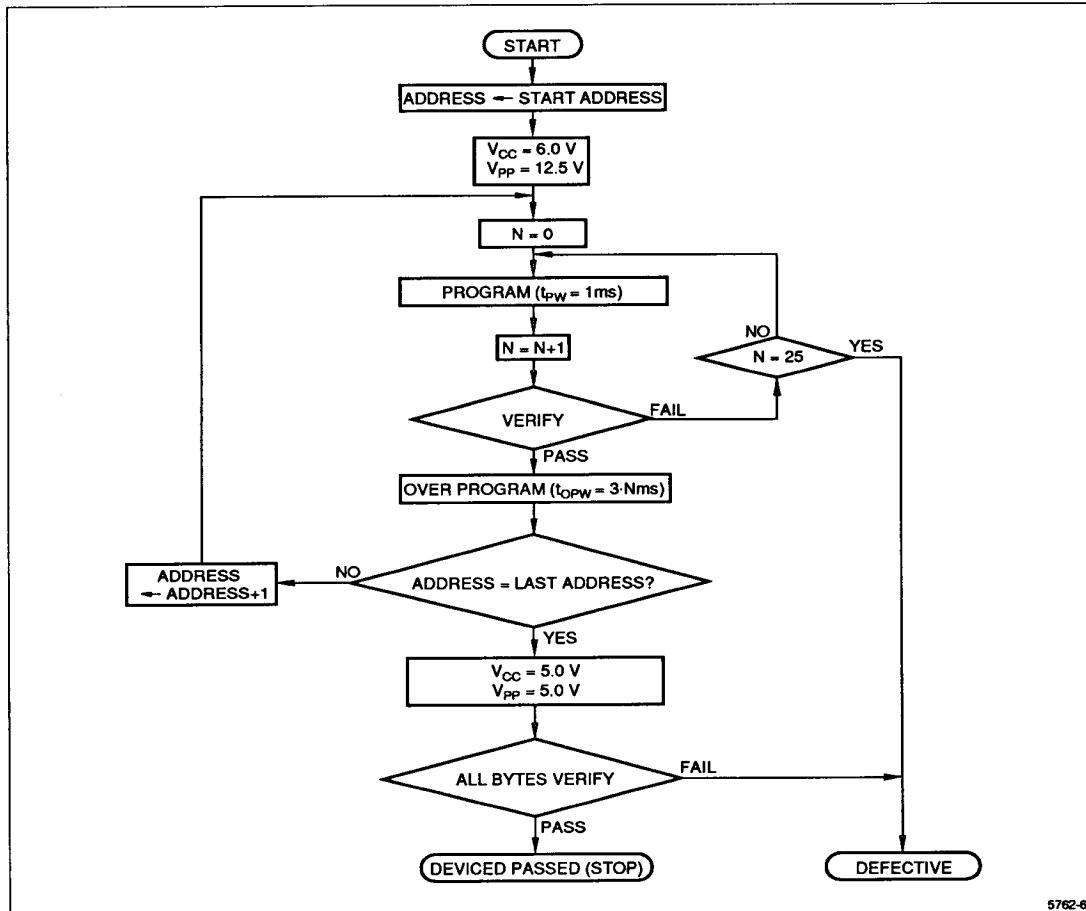

Figure 6. Programming Flowchart
1. This width is defined by the Program Flowchart (Figure 6).